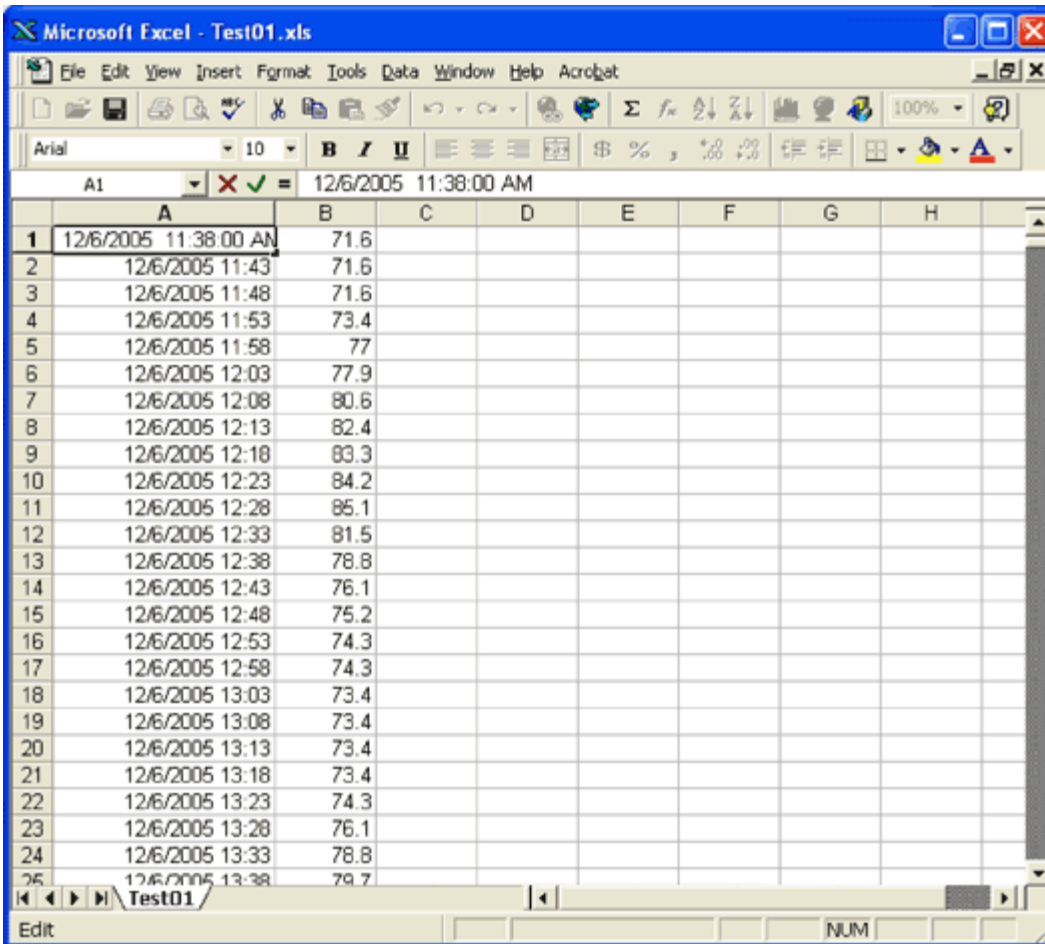

Figure 9. You must insert a space before the data and time after you select that cell.
1. To create a graph, go to the first date and time entry of the graph. Select that cell. A space must be placed in front of the data in the operations line of the Excel file (Figure 9).